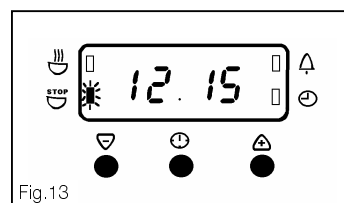

Fig.13
- i) To stop the sound press any of the three buttons, as Fig. 13.